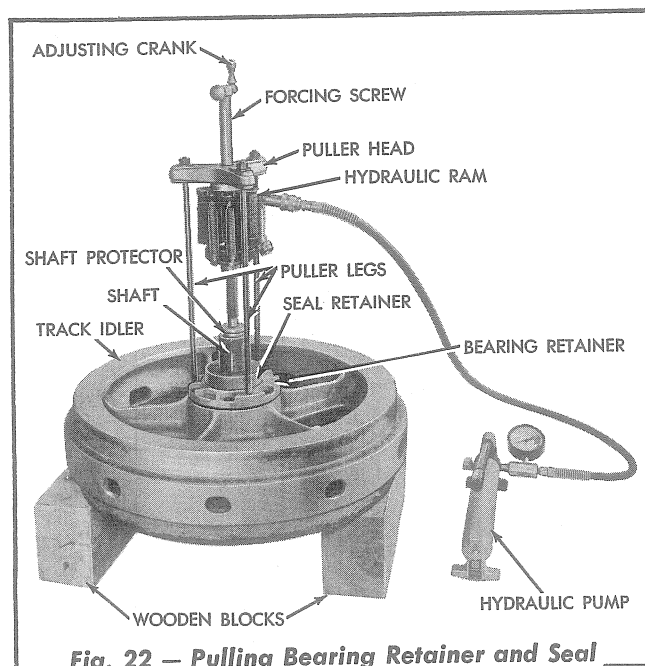

Fig. 22 — Pulling Bearing Retainer and Seal Retainer from Track Idler Shaft
5. Three equally spaced tapped holes are provided in each bearing retainer for means of removal. Using tools similar to the ones shown in Fig. 22, pull each bearing retainer and seal retainer (with seal assembly components) from the shaft. Tie the bearing adjustment shims to their respective retainer. **CAUTION:** Use care to avoid scratching and damage to the seal rings.